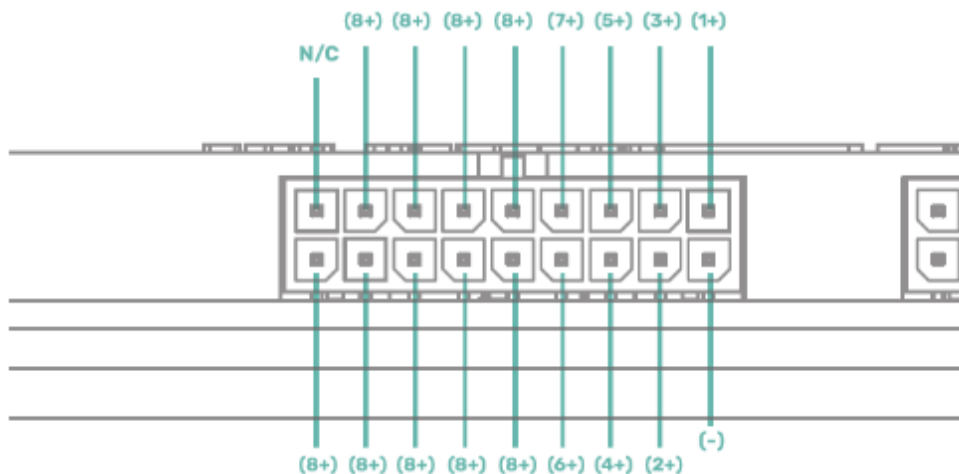

Figure 3.16 Cells connection, with e.g., 8 cells in series
**NOTE:** Connection must start from the most negative cell to the most positive. In cases when cells number is less than 16, e.g., 8 cells, then free cells connection wires (dedicated for 9th-16th cells) must ALL be connected to the last 8th (most positive cell). As shown in Figure 3.16 Cells connection, with e.g., 8 cells in series.